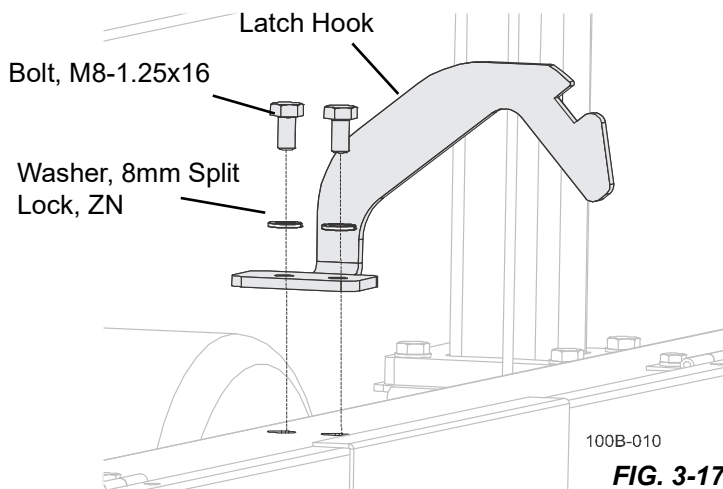

FIG. 3-17
- Place the latch hook into the top center of the saw head with the fasteners provided. See FIG. 3-17.